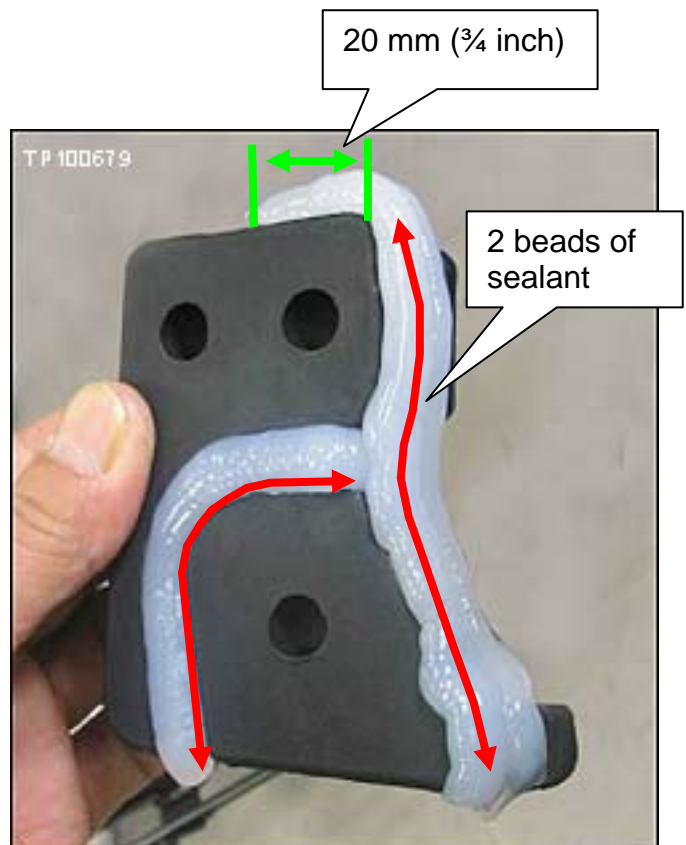

Figure 13
14. Apply adhesive sealant to **both halves** of the Fuel Filler Tube Protector as shown in Figure 13.